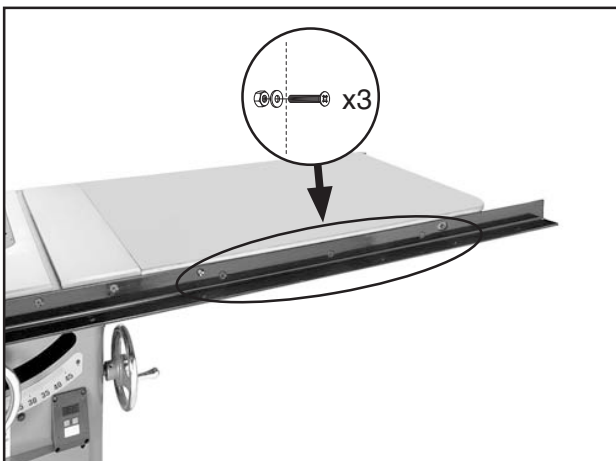

Figure 30. Front rail/table fastener locations.
3. While an assistant holds the extension table, fasten the front rail to the extension table with (3) M8-1.25 x 25 flat head screws, 8mm flat washers and M8-1.25 hex nuts (see **Figure 30**). Finger tighten the hex nuts for now.